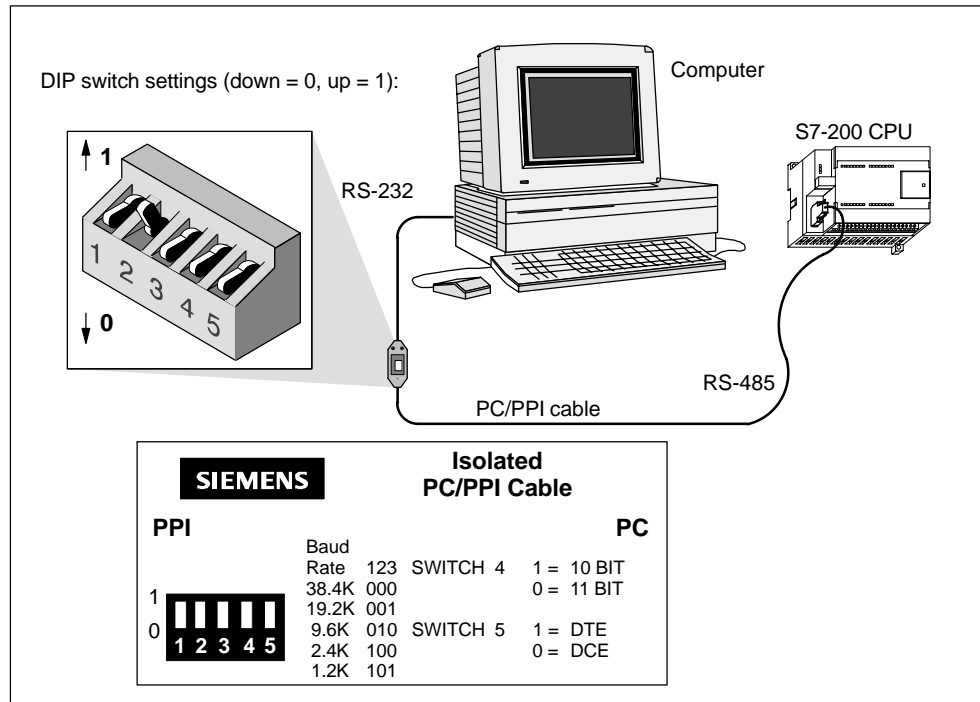

Figure 7-27 Communicating with a CPU in PPI Mode
- An isolated PC/PPI cable with an RS-232 port that has 5 DIP switches for setting baud rate and other configuration items (see Figure 7-27). For technical specifications about the isolated PC/PPI cable, see Appendix A.
To set the mode to Data Communications Equipment (DCE), you should set switch 5 to the 0 or down position (see Figure 7-27). To set the mode to Data Terminal Equipment (DTE), you should set switch 5 to the 1 or up position. Table 7-10 shows the pin numbers and functions for the RS-485 to RS-232 port of the PC/PPI cable in DTE mode. Table 7-11 shows the pin numbers and functions for the RS-485 to RS-232 port of the PC/PPI cable in DCE mode. You should note that the PC/PPI cable supplies RTS when it is in DTE mode.